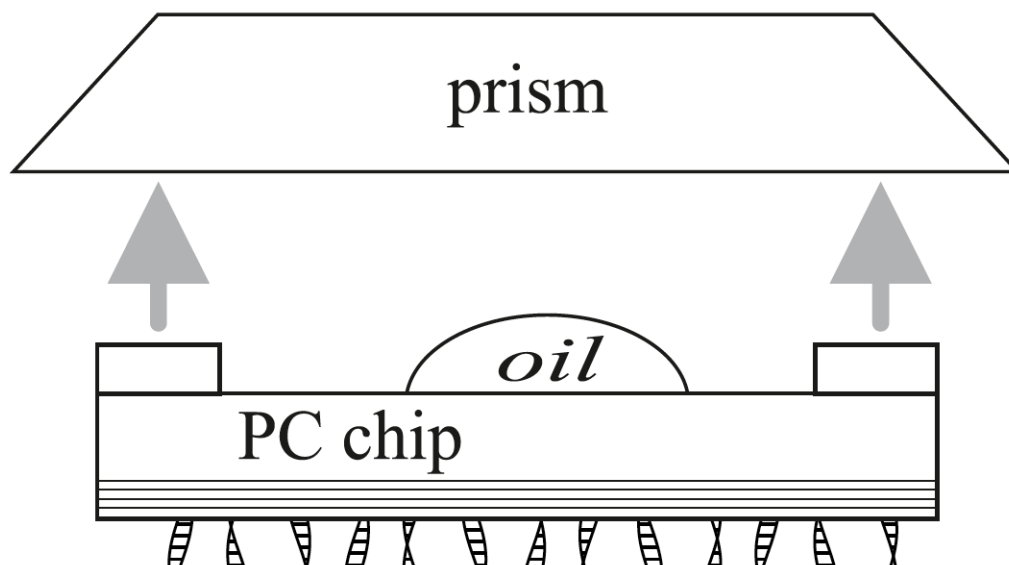

Figure 5. Attaching the sensor chip to the prism (with a drop of high-viscosity oil).
- 2) Place one *small* drop of the matching oil on the opposite side of the sensor chip (with two white stripes) and press it into contact with the glass prism in the Biosensor's optical unit (see **Figure 5**). *Note: The white stripes may be horizontally aligned to fit the flow cell size.* An oil with high viscosity is preferable for this purpose. For example, the following oil is recommended: